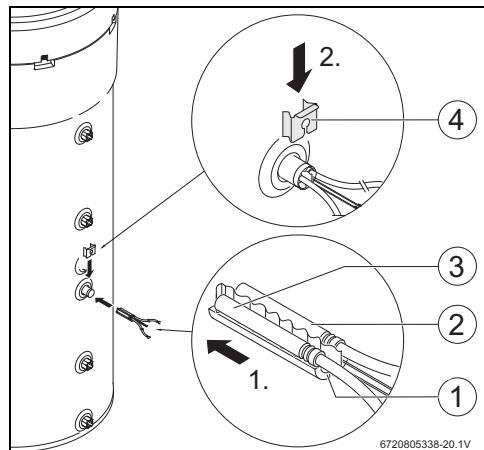

Fig. 7
- Install the installation set (Fig. 7, [1]), the temperature sensor connected to the accessories (Fig. 7, [2]) and the temperature sensor connected to the controller (Fig. 7, [3]), and position them as shown in Fig. 7.
- Attach the fastening clip (Fig. 7, [4]).